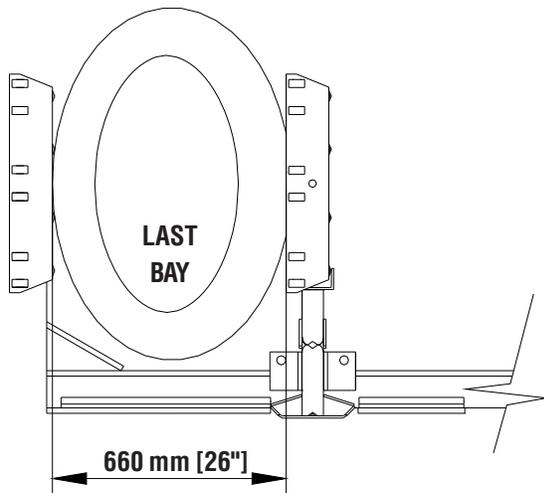

Figure 72
Note: The energy absorbing plastic cylinders, made from High Density Polyethylene, lose their ability to absorb energy with increasing number of system impacts. After a number of full capacity design impacts, defined as a 2000 kg [4409 lb] vehicle hitting the system head on at 100 km/h [62 m.p.h.], the system will no longer be able to meet the requirements as specified in NCHRP Report 350. To ensure that Cylinder replacement is accomplished before this condition occurs it is essential that this part of the inspection be conducted every time the hit indicator indicates the system has been impacted. (See Figure 72.)
The rear-most cylinder must measure at least 660 mm [26"] for proper impact performance (see Figure 72). If distance is less than 660 mm [26"], replace all QE1, QE2 and QEN cylinders. If distance is greater than 660 mm [26"], inspect all cylinders for major cracks, tears or cuts. Replace any damaged cylinders. Please call Energy Absorption Systems, Inc., Customer Service Department at (888) 323-6374 if you have additional questions.